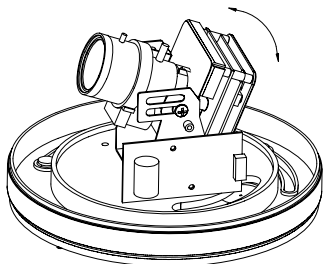

Figure 4
STEP 3: The vertical angle can be adjusted by loosening the screws as shown in Figure 4 and by turning the Camera Case vertically.